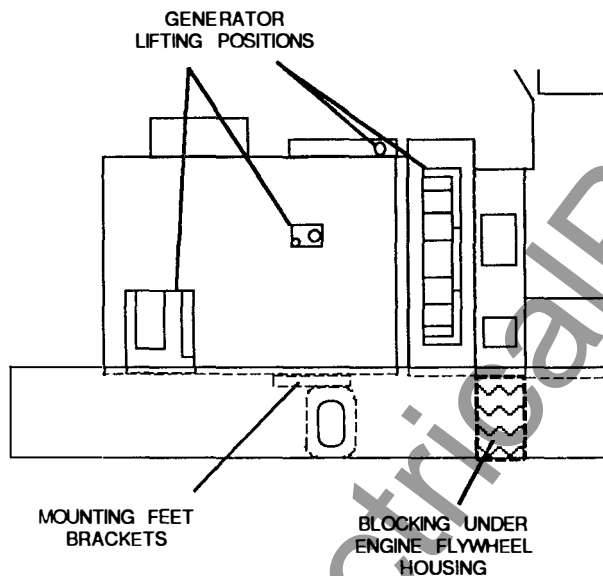

FIGURE 6-3. GENERATOR LIFTING POSITIONS
19. Using an adequate lifting device, lift the generator (at lifting eyes provided, and main stator housing) until the mounting feet brackets are clear of the frame member (see Figures 6-3 and 6-4).
20. If generator set does not have chassis mounts at generator end (N855 and K19), block the rear of the engine in place by supporting the flywheel housing. A length of steel channel and wooden blocking is required to support the rear of the engine. Place the channel and blocking under the flywheel housing. Lower the generator until most of the set weight is supported by the blocking (see Figure 6-3).
31. If generator set does not have chassis mounts at generator end (N855 and K19), block the rear of the engine in place by supporting the flywheel housing. A length of steel channel and wooden blocking is required to support the rear of the engine. Place the channel and blocking under the flywheel housing. Lower the generator until most of the set weight is supported by the blocking (see Figure 6-3).
4. Lift the generator slightly and remove any blocking from under the flywheel housing. Lower the generator (see Figure 6-3).